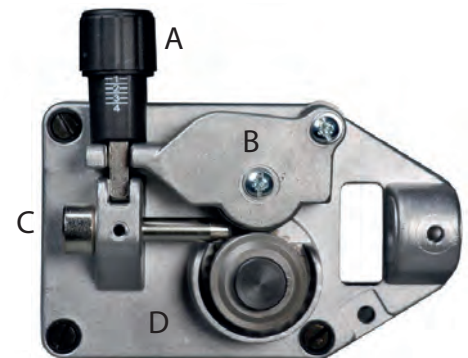

Figure 17
- Loosen and lower the plastic knob (A) (Fig.17). Open the pressure arm (B) of the feeder. Extract the wire from the torch liner.
- When the wire is disconnected, grasp it with pliers so that it cannot exit from the spool. If necessary, straighten it before inserting it in the wire input guide (C). Insert the wire on the lower roll (D) and in the torch liner.